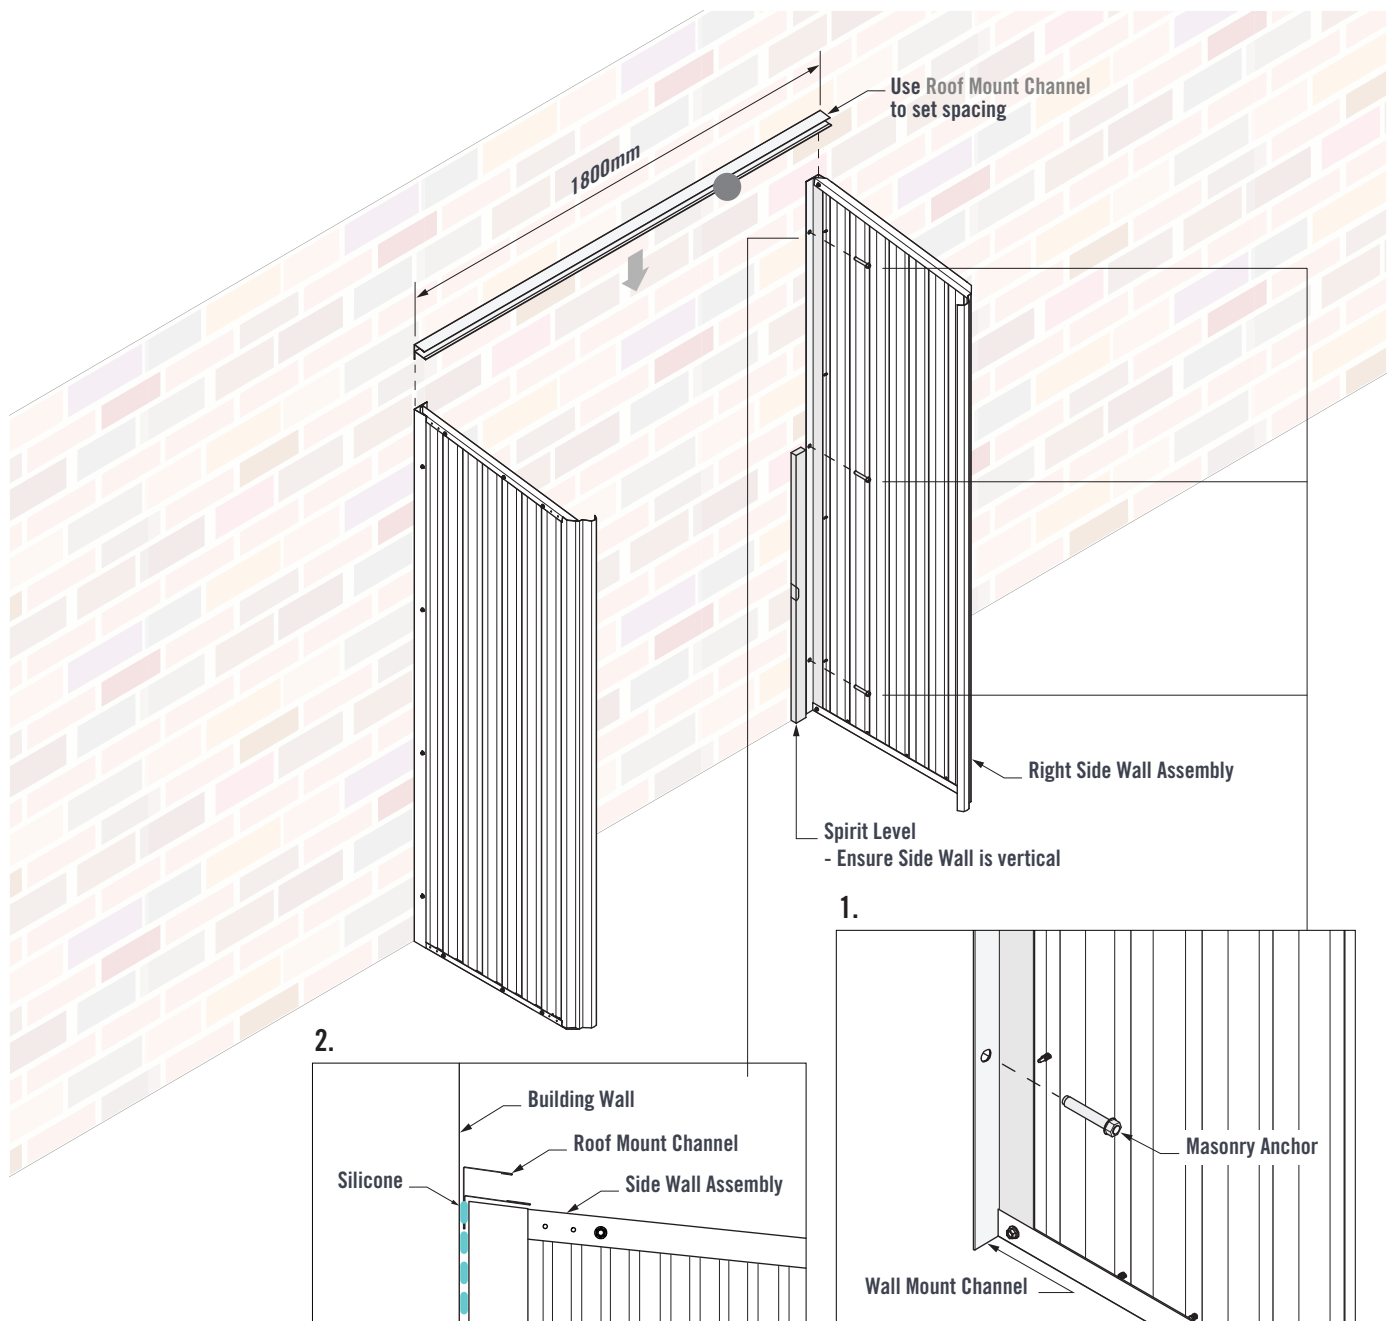

FIGURE 6.1
Position the Right Side Wall Assembly against the building wall. Use a spirit level to ensure the Wall Assembly is vertical and square to the wall. Use the Roof Mount Channel to set the correct spacing between Side Wall Assemblies (Figure 6.1).
1. Mark and drill three 10mm holes through the pilot holes of the Wall Mount Channel and into the building wall. Loosely install three M10x47 Masonry Anchors (Figure 6.1).
2. Before tightening the Masonry Anchors, apply a bead of silicone between the Wall Mount Channel and building wall to prevent rain entering the shed (Figure 6.1).